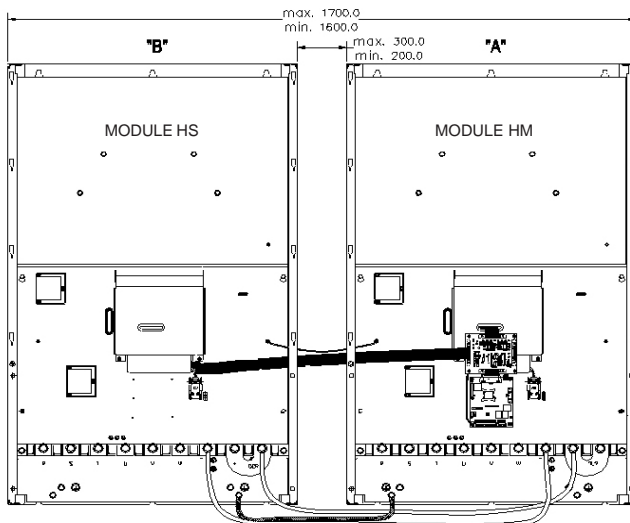

Figure 6 - Mounting with two modules
- ☑ Figures 6 and 7 show the spacing that must be assured when two or three modules mounted. The figures show size 10 of the 380-480V series. The installation of the 500-600V and 660-690V series is similar.